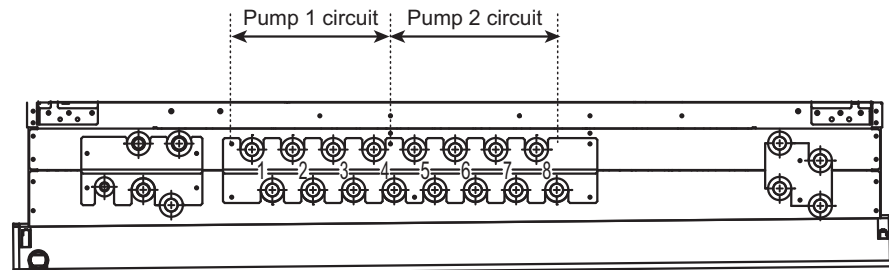

Fig. 11-2-1C
- When the junction pipes are connected to 8 HBC ports, the branched sides of the junction pipes cannot be connected to the ports "4 and 5" at the same time. (See Fig. 11-2-1C.)
- When connecting the pipe to 8 HBC ports, make sure that the total capacity of the indoor units connected to ports "1 through 4" or "5 through 8" will not exceed W/WP/WL188 and will be equal as much as possible. (See Fig. 11-2-1C.)